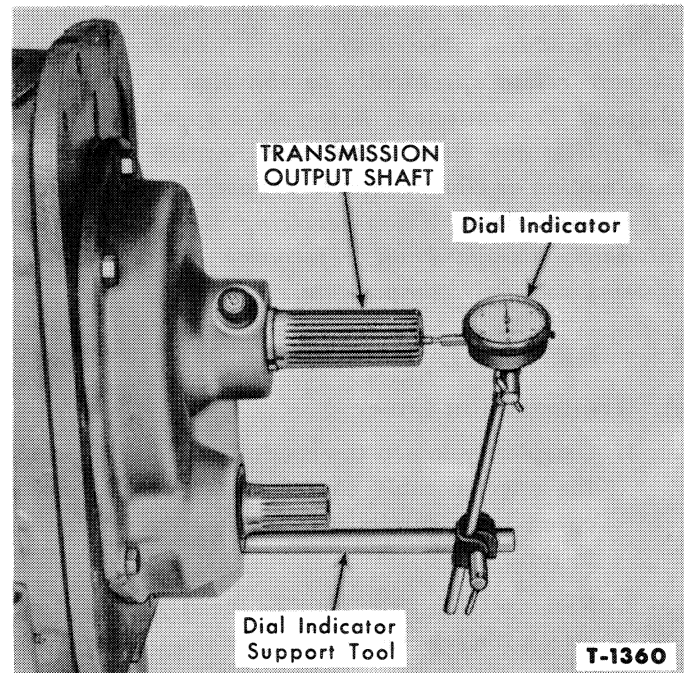

Figure 84—Checking Transmission Rear End Play
3. Push the output shaft toward the front of the transmission and set the dial indicator to zero, as shown in Figure 84, while maintaining a slight pressure on the shaft.